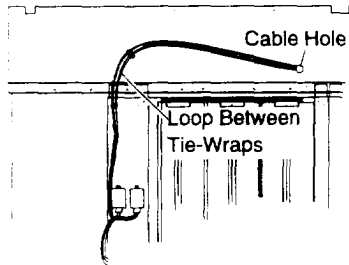

Figure 23: Routing Cables
- Use tie wraps to bundle the wires and secure to the top flange and RA/OA divider as shown in Figure 23 on page 7.